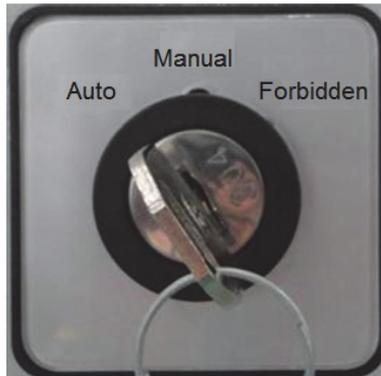

Fig.2 Selection switch of auto bypass cabinet working mode
- The switch SF1 (#2 is SF3) for auto bypass cabinet working mode is available, making it more flexible to choose working mode to prevent incorrect operation, as shown in Fig.2.